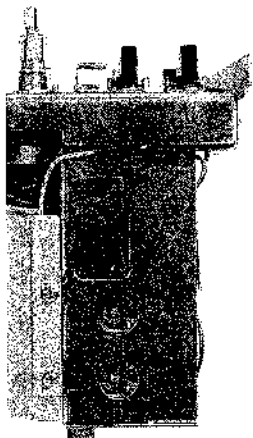

Fig. 17
4. RECORDING BIAS VOLTAGE ADJUSTMENT (FREQUENCY RESPONSE ADJUSTMENT) (See Figs. 17, 18)